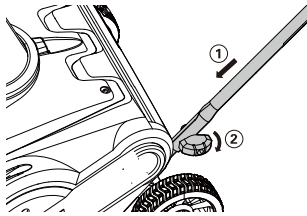
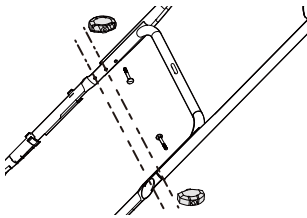

Fig. 2
Fig. 4
**IMPORTANT:** When attaching the lower handle to the snow thrower, make sure the chute crank bar mounting hole on the lower handlebar is facing upwards (side of bar where hole is indented). ( See Fig. 2-Fig.4 )